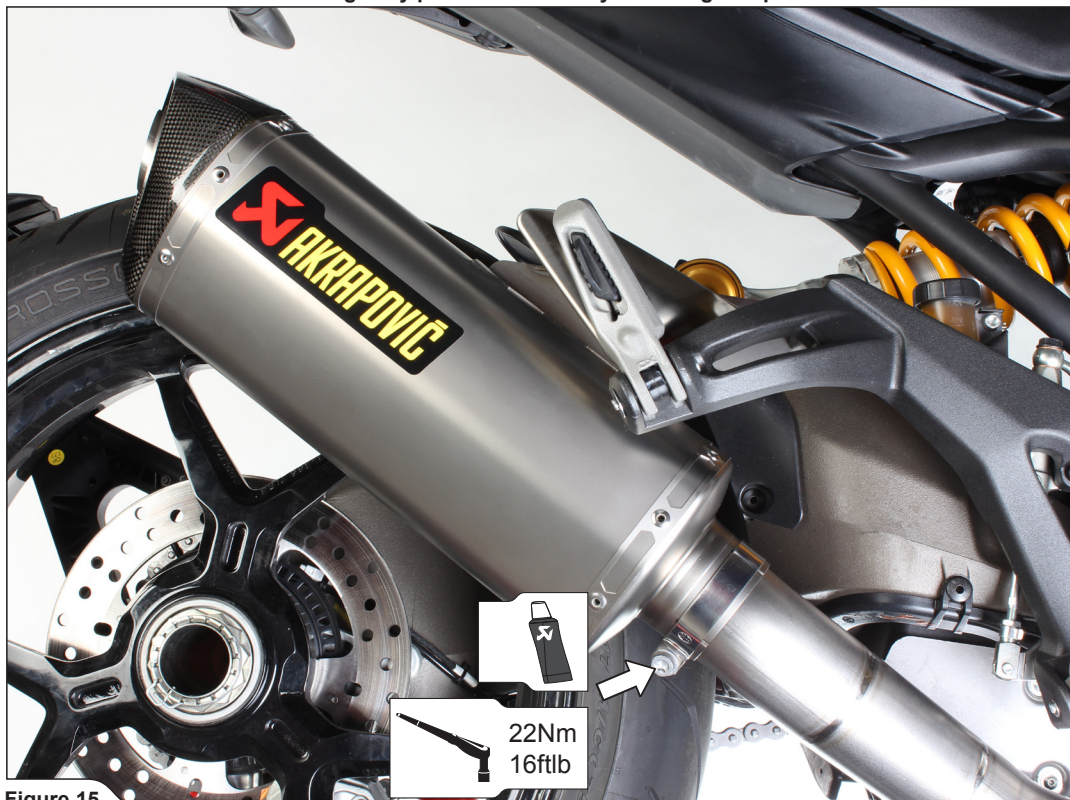

Figure 15
5. Slide the muffler onto the outlet side of the link pipe, align it in respect to the motorcycle, tighten the clamp and muffler's bracket (Figure 15, 16).